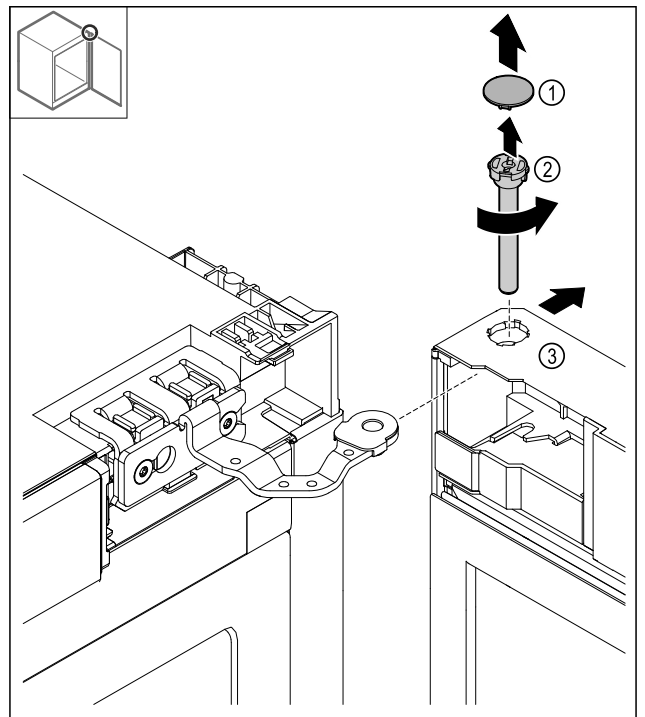

Fig. 12
- ▶ Remove the cover Fig. 12 (1).
- ▶ Loosen the bolt Fig. 12 (2) anti-clockwise and pull it out.
- ▶ Tilt the door Fig. 12 (3) slightly.